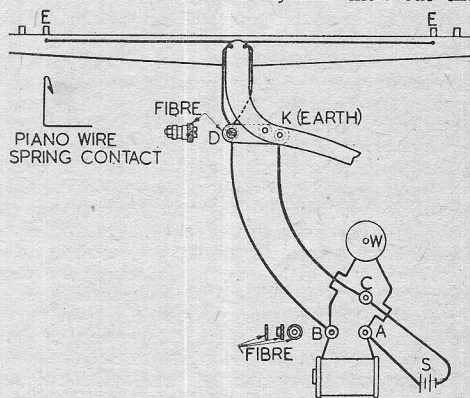

Fig. 21. Diagram of wiring
**Wiring.**—Fig. 21 is a diagrammatic chart of the connections. Starting from the source "S," which may be dry cells, accumulators, or (by far the most satisfactory) mains, the current goes to the anchorage "A" and to the bobbins, which it energises, attracting the armature. It cannot pass from "A" to "W" (the Westinghouse spark-quencher) because that device is a one-way road, or rectifier, and barred to diagrammatic anti-clockwise current. It leaves the bobbins through the anchorage "B" to the union "D" on the fibre pad on the rocking lever. Once again it was barred from passing from "B" to "W" because that would only take it back to the pole from which it started.
wire  $\frac{1}{2}$  in. short of it. Bend a bit of fine piano wire to form a springy hair-pin, to fit inside the contact hole in the incline (Fig. 21). The length of the springy part must be less than the length of the hole in the incline. The end of the spring must be bent double on itself, as shown, otherwise it might be difficult to withdraw it, it might catch up like a fish-hook at the junction of the holes in plate and incline.